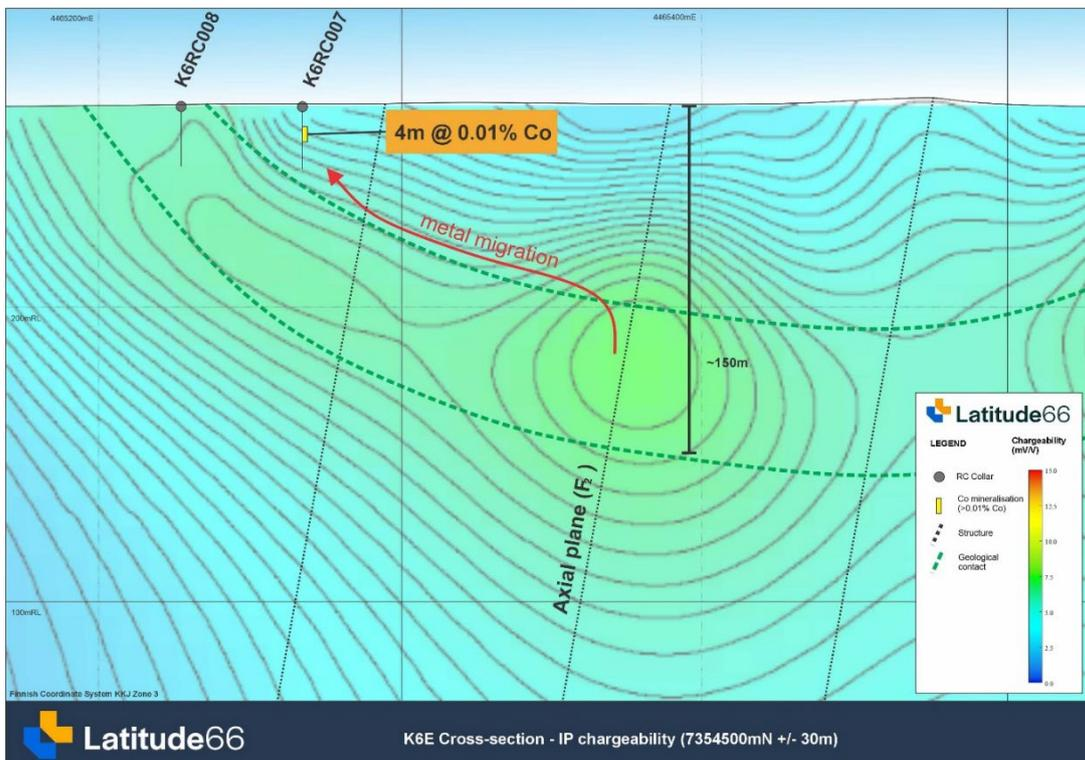

Figure 4: Cross section through the K6E prospect, showing IP chargeability response relative to drilling position
Drilling at the K6E prospect returned a notable intersection of **4m @ 0.01% Co** (K6RC007), which is interpreted as being significant as it relates to the rocks that host the mineralisation. The elevated cobalt result is interpreted as being associated with a lithological contact between felsic metavolcanic rocks (footwall) and a distinct, compositionally different geological unit characterised by elevated chromium (Cr), magnesium (Mg), and nickel (Ni) concentrations (hangingwall). The geochemical signature of this unit suggests a probable mafic origin. This contact, identified in only one of the twelve drill holes, is of particular interest as it is interpreted to correlate with a weak but continuous induced polarisation (IP) chargeability response that dips moderately to the east (Figure 4:)⁴.